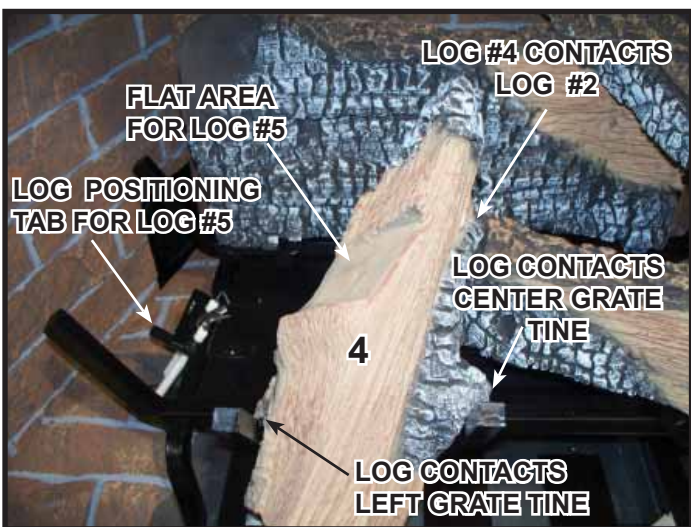
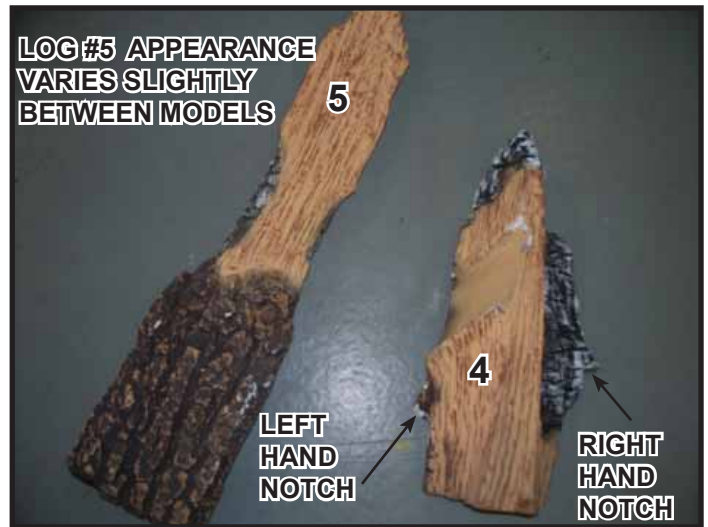
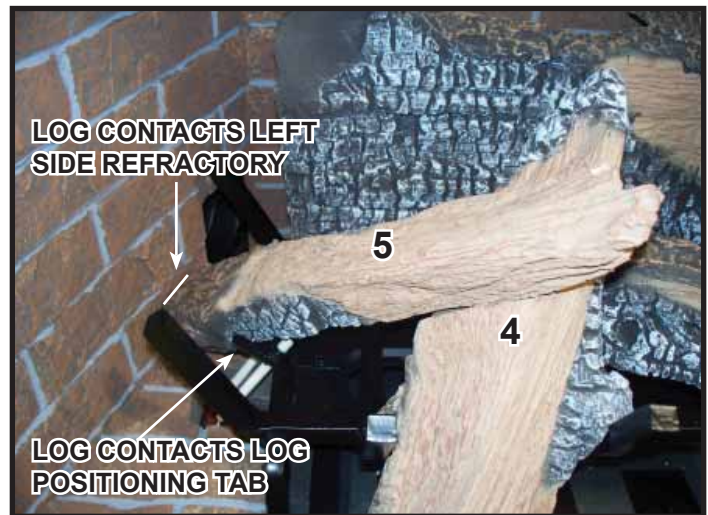
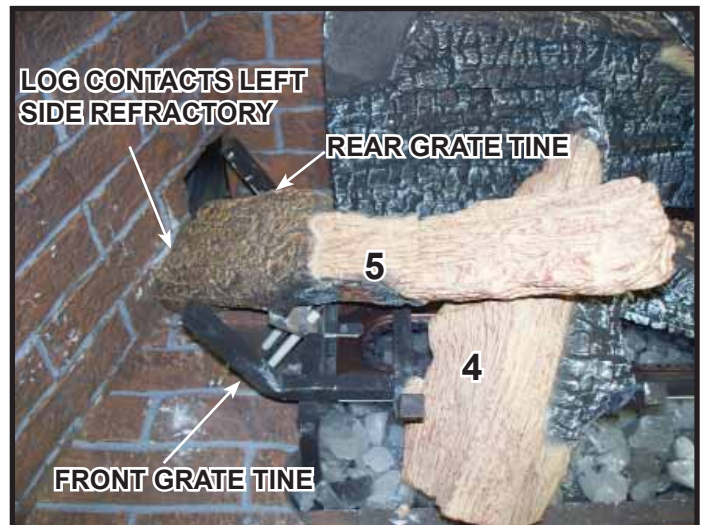

Figure 8.
Figure 7.
Figure 9. Log #5 - TRUE-36.
Figure 10. Log #5 - TRUE-42
**Log #4 (2280-704 for TRUE-36; 2281-704 for TRUE-42):** See Figure 7. Place Log #4 between the left and center grate tines. Notches on log will rest on tines. Log should be positioned as far forward as possible. See Figure 8. Log #4 will lean against Log #2.
**Log #5 (2280-705 FOR TRUE-36, 2281-705 FOR TRUE-42):** Locate flat area on Log #4 that will be used to position Log #5. See Figure 8. Place Log #5 into appliance as shown in Figure 9 or Figure 10. Left end of log should rest against left side refractory just in front of air inlet on rear, lower left of appliance.
**Log #5 (TRUE-36):** Log #5 will sit about halfway between front and rear grate tines, partially over pilot assembly. Log #5 will contact log positioning tab as shown in Figure 9. Right side of Log #5 will rest in notch on Log #4. See Figure 9.
**Log #5 (TRUE-42):** Log #5 will rest against the rear grate tine as shown in Figure 10. Right side of Log #5 will rest in notch on Log #4. See Figure 10.